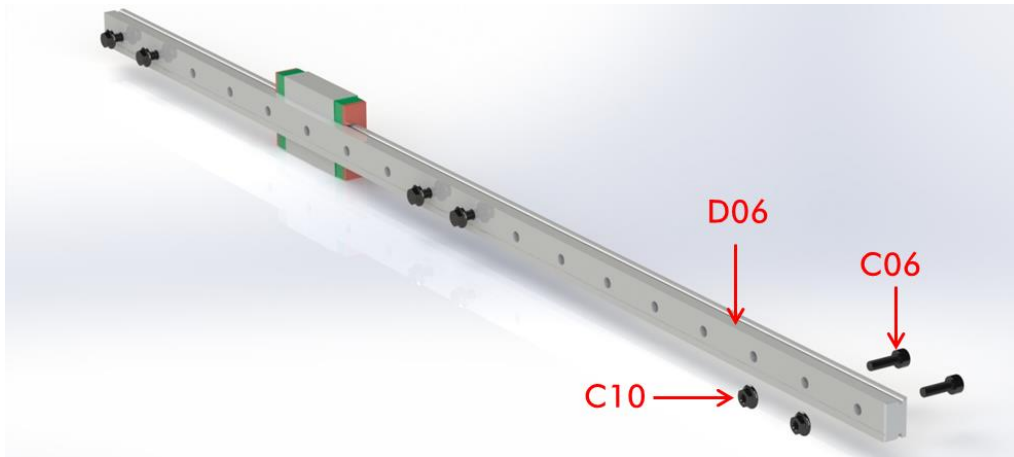

Fig. 12 (the color of the linear rails might be different from this image)
(1) Linear Version
Step 1. Firstly, hang 6 pairs of C06 and C10 with proper interval onto the linear rail (D06) as demonstrated in Fig. 12. In total there are 3 rails and the assembly is the same.